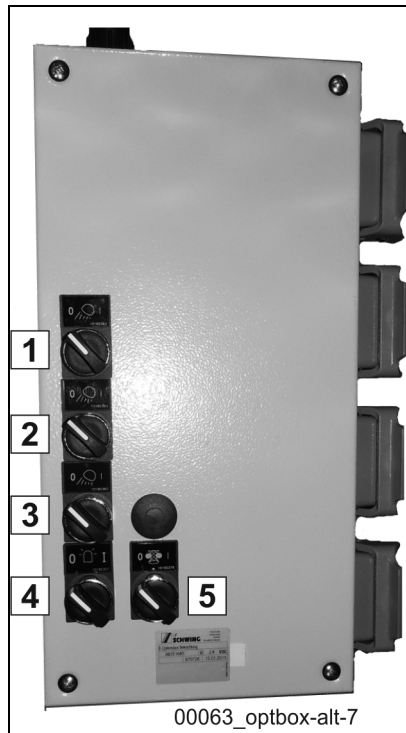
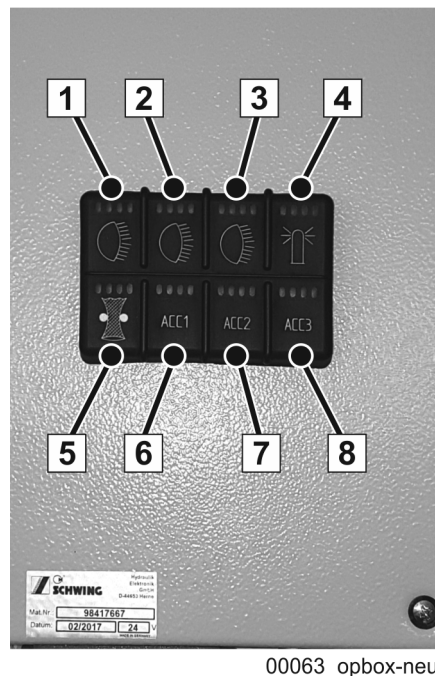

Fig. 439 E-option box on a truck-mounted concrete pump
Fig. 441 E-option box (new) on a truck-mounted concrete pump
0 The selector switch (5) (**Fig. 439**) (**Fig. 441**) is located in a separate housing next to the switch cabinet with the machine controls.